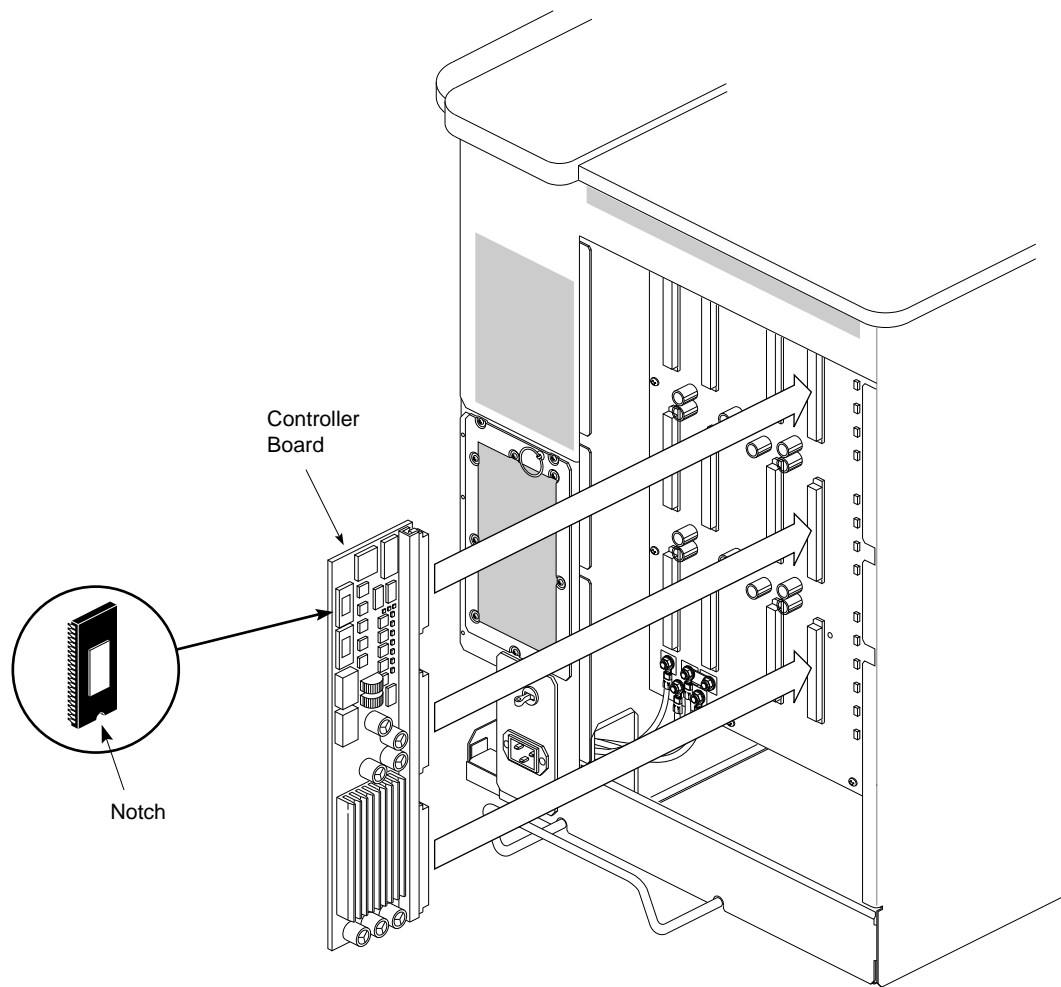

Figure 5-89 System Controller PROM Location (Onyx Deskside Backplane Shown)
This section describes how to upgrade the PROM in the System Controller board in the CHALLENGE/Onyx system, if applicable. The System Controller board (also called the E-power board) is one of the power boards that plugs into the backplane (see Figure 5-89). This board contains the control logic for the status panel display and also supplies power for the Ebus.
See Figure 5-89 for the location of the PROM on the System Controller board.
1. Locate the old PROM (see Figure 5-89), then use an IC puller to remove this PROM from its location.
2. Note the orientation of pin 1 in Figure 5-89, then install the new PROM (P/N 070-1117-005) and be careful not to bend or break any pins.